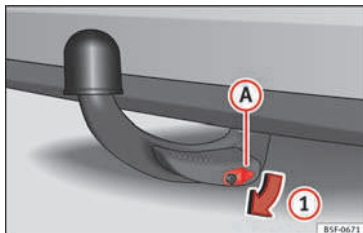

Fig. 186 Removing the lock cover.
- Remove cover (A) from the lock in the direction of arrow (1) » Fig. 186.